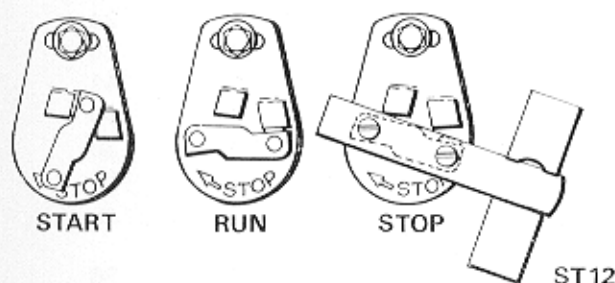

Fig. 2. Stopping Control
- (e) Pull the control lever outwards and allow it to rotate anticlockwise so that it abuts against the top stop and is in a vertical position. See Fig. 2.
- (d) Pull the control lever outwards and allow it to rotate anticlockwise so that it abuts against the top stop and is in a vertical position. See Fig. 2. **Note:** On engines fitted with speed control the control lever should be set at FAST.